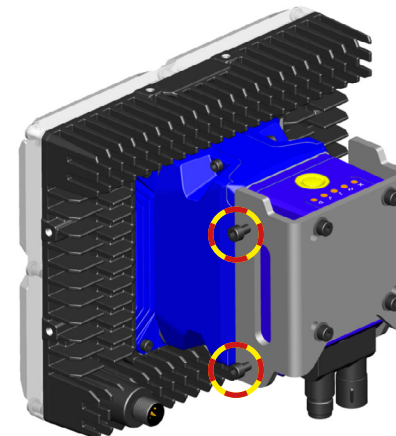

Fig. 3 - Mounting the Fast Replacing Plate
2. Insert, without tightening, four screws on the sides of the Fast Replacing Plate, as shown in Fig. 3.
NOTE: Once the reader is mounted with the bracket, to disassemble it simply loosen (without removing) the four screws on both sides of the Fast Replacing Plate, as shown in Fig. 3.